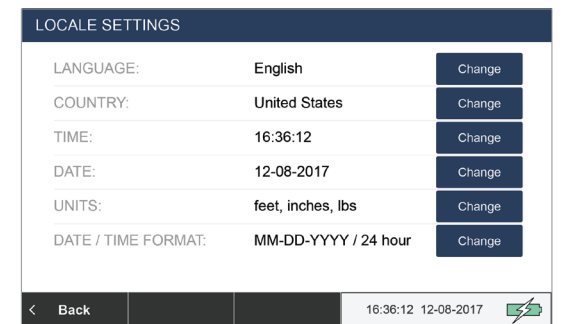

Figure 19 Locale Settings Screen
11. The **Locale Settings** screen shows the current settings. Press **Change** next to a settings option to change that setting (see Figure 19).
- To change the time, from the *Locale Settings* screen (see Figure 19) press *Change* to the right of *Time* to go to the *Adjust Time* screen.
- To change the time format or date format, from the *Locale Settings* screen (see Figure 19) press *Change* to the right of *Date/Time Format* to go to the *Select Format* screen.
- To change the units used for patient height and weight, from the *Locale Settings* screen (see Figure 19) press *Change* to the right of *Units* to go to the *Select Units* screen.